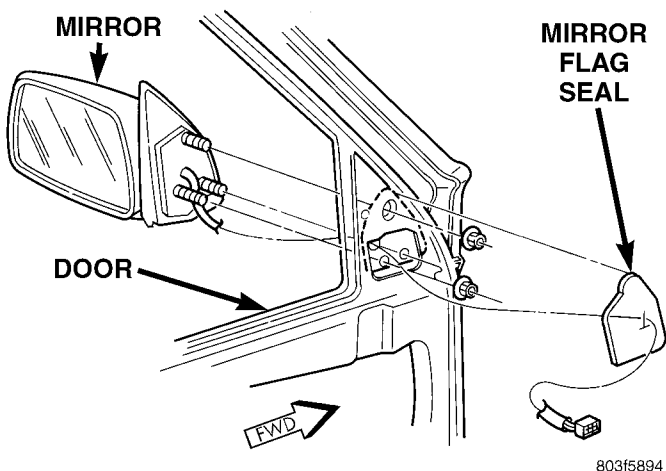

Fig. 4 Power Mirror Remove/Install
(1) Disconnect and isolate the battery negative cable.
(2) Remove the front door trim panel. See Door Module in this group for the procedures.
(3) Unplug the electrochromic mirror wire harness connector, if the vehicle is so equipped.
(4) Disconnect the power mirror wire harness retainers from the inner door panel.
(5) Remove the mirror flag seal from the door panel (Fig. 4).
(6) Remove the three nuts that secure the mirror to the door.
(7) Remove the mirror from the door.
(8) Reverse the removal procedures to install. Tighten the mirror mounting nuts to 7.4 N·m (65 in. lbs.).